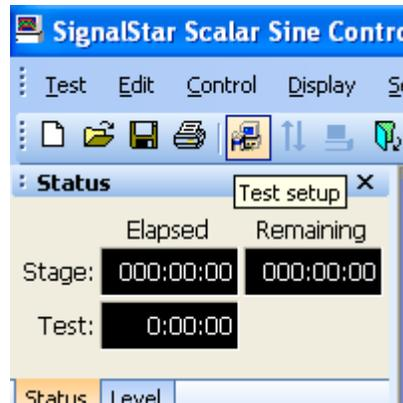

Figure 4-6: Screenshot of the “Test Setup” icon
- 5) Click the computer icon labeled “TEST SETUP”; this window will remain open for all the tabs mentioned in steps 6) through 15). See Figure 4-6.